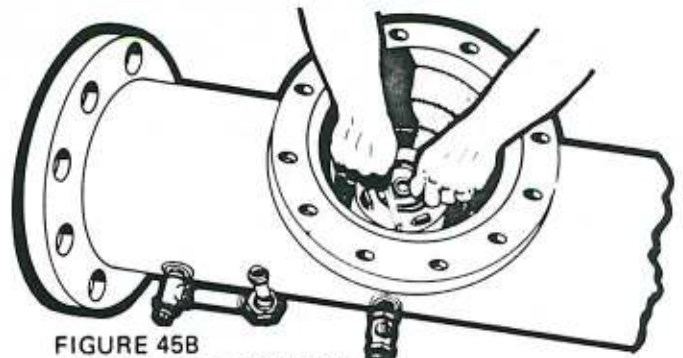

FIGURE 45B
3. Reassemble the upper seat into the housing, using a new seat gasket (3). Tighten with seat wrench.
5. Using a new gasket (8), reassemble the lower seat into the housing with a seat wrench. To assure proper spacing of the seats, the bottom flange of the spacer must be within .005" above or below the face of the lower seat. (See gauging procedure 8" and 10" Model 6C. The upper seat may also be loosened or tightened to achieve correct spacing of the seats.) (see Fig. 45B)